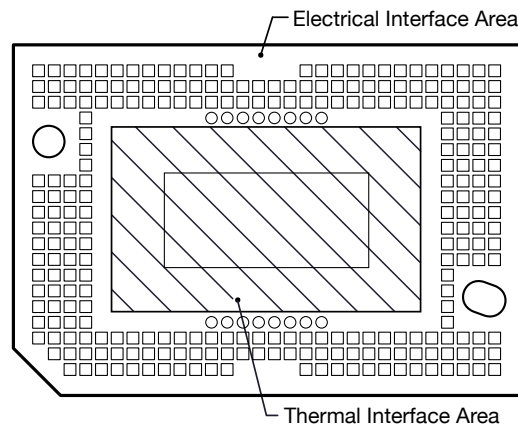

Figure 7. System Mounting Interface Loads
(1) Uniformly distributed within area shown in Figure 7